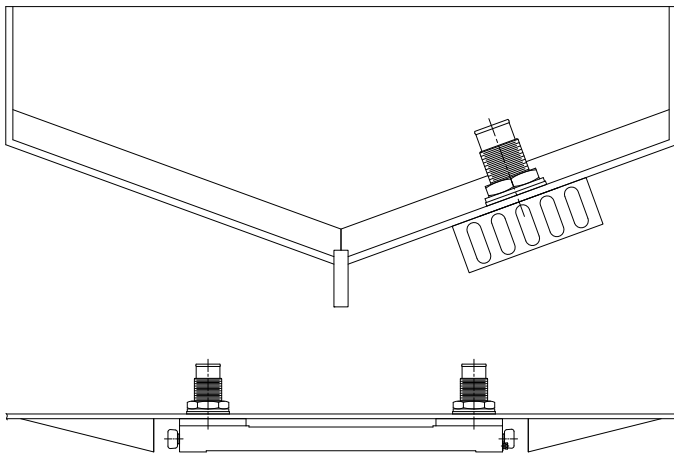

FIG.1 External type installation with E1 OPTION end-mounted anodes using fairing blocks for protection and streamlining.
- 1.1.2 Always install the unit parallel, not transverse, to the skeg or keel. See Figures 1 & 2.
1.6.5 If side plates and fairing blocks are used, make sure that the side plates are scalloped (notched) out so they will not entrap water. Fairing blocks are most effective when installed with a 4 to 1 slope. See Figures 1 & 5.